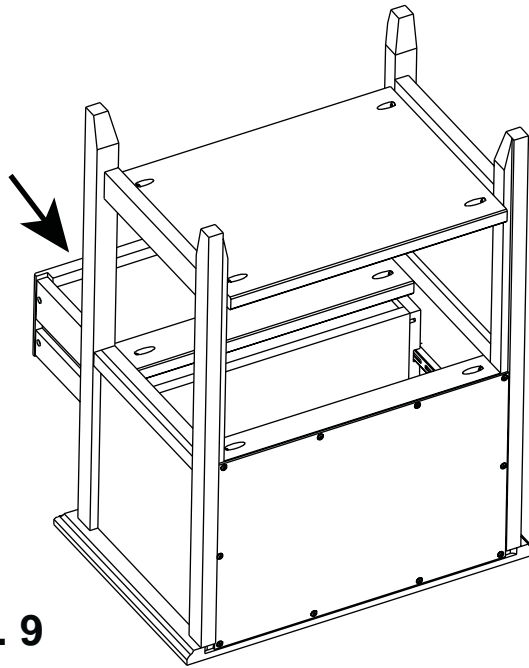

Fig. 9
9. Turn the unit upside down on a clean, protected surface and insert the bottom drawer. See Figure 9.